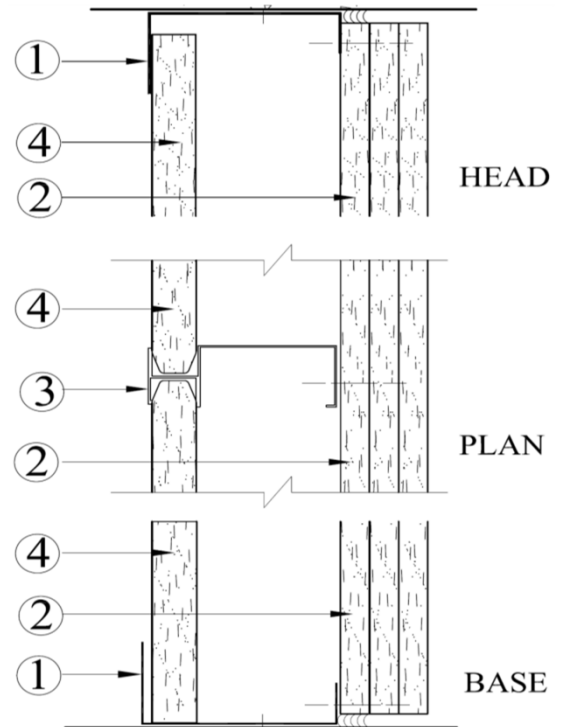

Figure 4 - Three Hour Cavity Shaft Wall (Non-Load Bearing)
Three-Hour Cavity Shaft Wall (Non-Load Bearing), See Figure 4
1. A minimum 2-1/2" deep 24 gauge floor and ceiling J-runners, attached to the structure as described in the Figure 4.
2. Apply three (3) layers of 5/8" thick Sheetrock® Brand **Firecode®** C Core Gypsum Panels (Type C), vertically or horizontally to the room side of the C-H stud. First layer shall be attached with a 1-in long Type S screw placed 24" o.c. in the field and at the edges when applied vertically, for horizontal applications the screws shall be spaced 16" o.c. The second layer shall be applied with 1-5/8" long Type S screws spaced 24" o.c. when applied vertically or spaced 16" o.c. when the applied horizontally. The Face layer shall be applied with 2-1/4" long Type S screws that are spaced 16" o.c. when the board is applied vertically, and spaced 12" o.c. when the board is applied horizontally. All joints must be staggered a minimum of 24" o.c. from the adjacent layers, where screws are offset a minimum of 6" from the layer below.
Table 4 - Limiting Heights Vertical Shaft Walls^{1,2} - Applicable to Fig. 4 & 5
1. See Figure 4 and 5 for vertical stud installation details within shaft/stair wall.